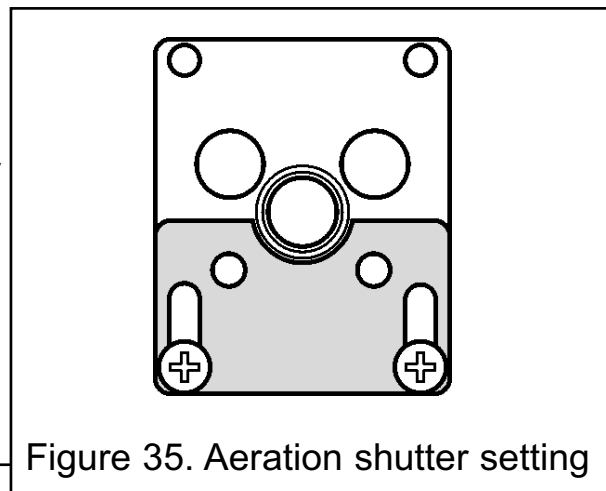

Figure 35. Aeration shutter setting
1. The aeration shutter is factory set. It is important to ensure that the aeration setting is correct (See figure 35).